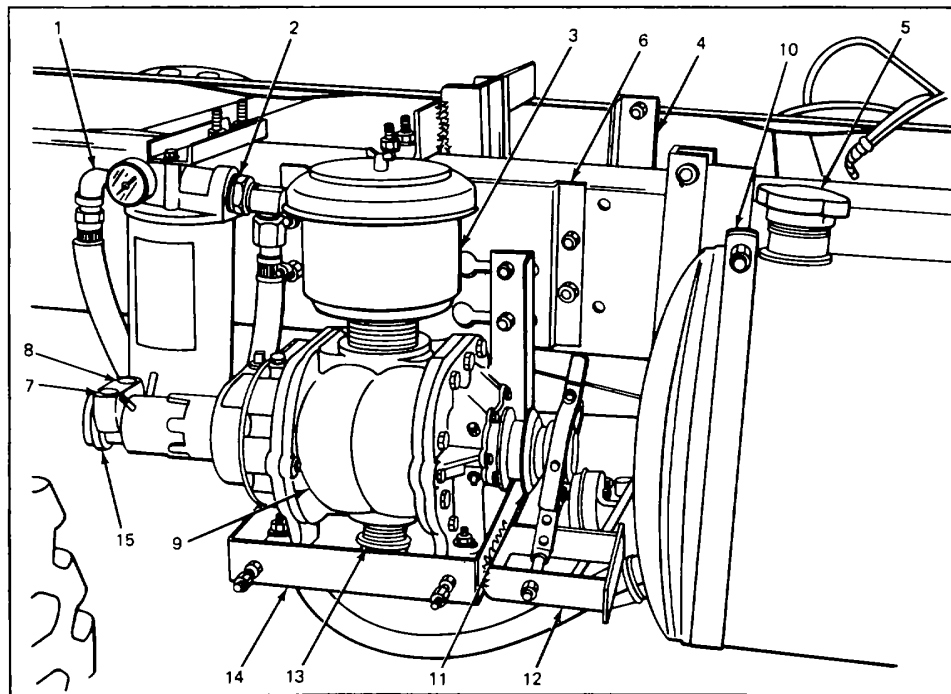

Figure 42
A completed hydraulic reservoir mounting can be seen in F. 42 & 44. To complete mounting, first remove reservoir from shipping skid and locate mounting bracket on chassis frame to give adequate blower drive clutch and chassis clearance (Fig. 42). Attach mounting bracket to chassis frame using 5/8" "Hook" bolts on front bracket and two (2) 1/2 X 5 bolts with channel clips on rear bracket (Fig. 44). Install suction line tee, nipple, thermo switch, breather, thermometer and oil sight glass as seen Fig. 45.
Attach filter element to mounting bracket with two (2) 5/16 X 1 bolts and place bracket in bench vise. Install suction and discharge reducing bushings and elbows (F. 42 & 45). Locate filter on chassis frame (Fig. 42) and attach with two (2) 1/2 X 12" bolts and mounting clips.